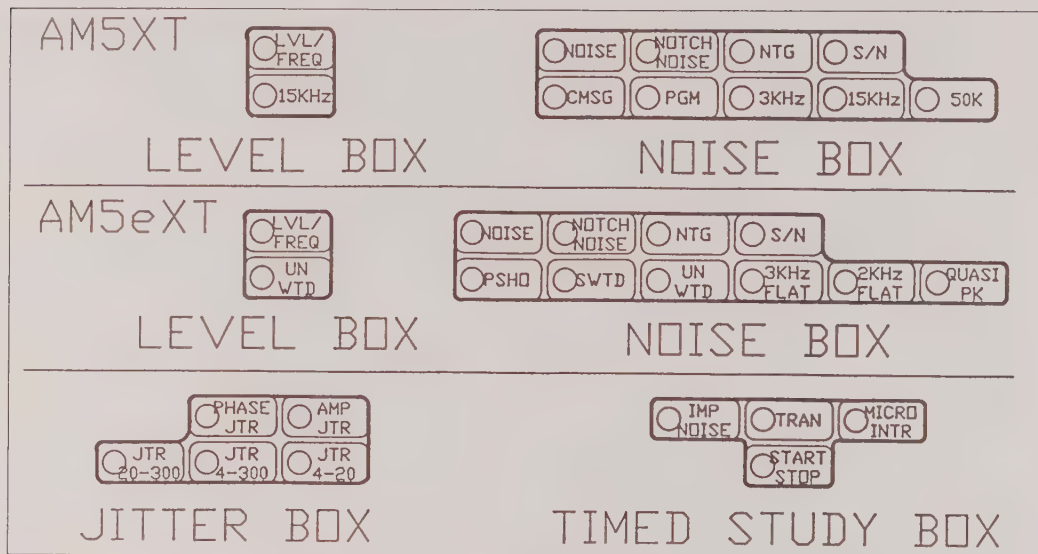

Figure 9-2. Function Boxes
Function Boxes. Some Auxiliary Functions are only associated with certain Measure Functions; these Auxiliary Functions are enclosed with a black border, together with the Measure Functions with which they are associated. These are referred to as Function Boxes. There are four (4) Function Boxes which are illustrated in Fig. 9-2. Note that the Level Box and Noise Box are different for the AM5XT and AM5eXT; the Jitter Box and
This function is part of the Level (Function) Box as shown in Fig. 9-2. It is a low-pass filter, connected to the front end of the measurement circuitry, effectively eliminating high-frequency components. For AM5XT, this is a 15 kHz filter; for AM5eXT, a sound-unweighted filter (30 Hz to 20 kHz).
Noise weighting filters are part of the Noise (Function) Box as shown in Fig. 9-2. If a noise measurement is to be made with a noise weighting filter, there are five (5) noise weighting filters from which to choose. Only one (1) of the filters (or none) can be selected for a given noise measurement. The possible filters are listed in Table 9-1.
The three (3) Jitter Bandwidth Weighting Filters are part of the Jitter (Function) Box as shown in Fig. 9-2. When making Phase Jitter or Amplitude Jitter measurements, one (1) of these Bandwidths must be chosen for the test. Therefore, one (1) of the Jitter Bandwidth LEDs will always be on, indicating the Bandwidth selected.
The Start/Stop function is part of the Timed Study (Function) Box as shown in Fig. 9-2. It is used to Start/Stop the Timed Study tests enclosed in the Timed Study Box: